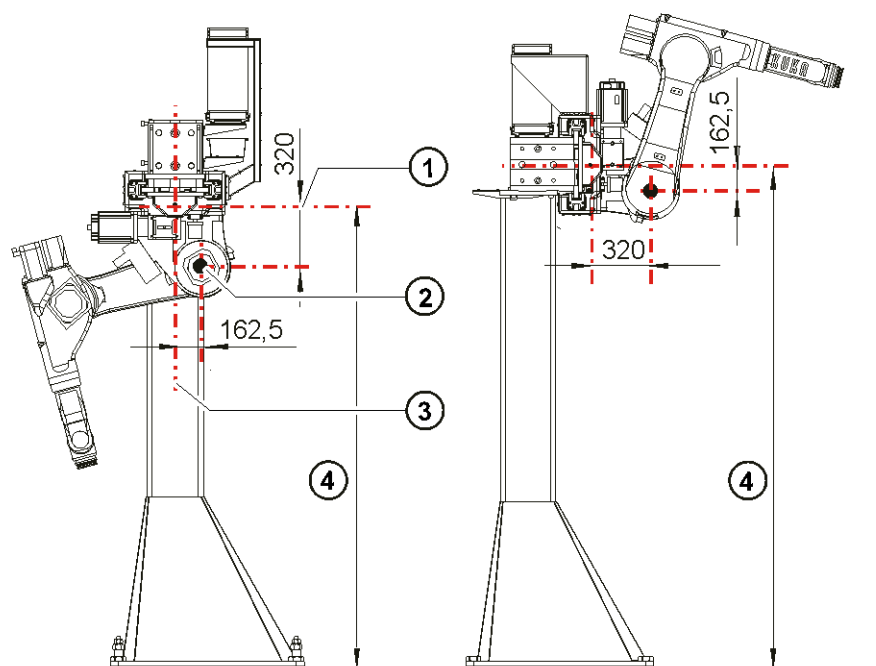

Fig. 4-3: Reference plane
The reference plane (>>> Fig. 4-3) for the working envelope of the robot is axis 2 (2). With side mounting, it is offset 162.5 mm below the center (3) of the beam. With inverted mounting, the offset is 162.5 mm to the rear. Specifications of the column height (4) refer to the floor and to the center of the carriage in the case of side mounting, and to the bolt-on surface of the carriage in the case of inverted mounting.